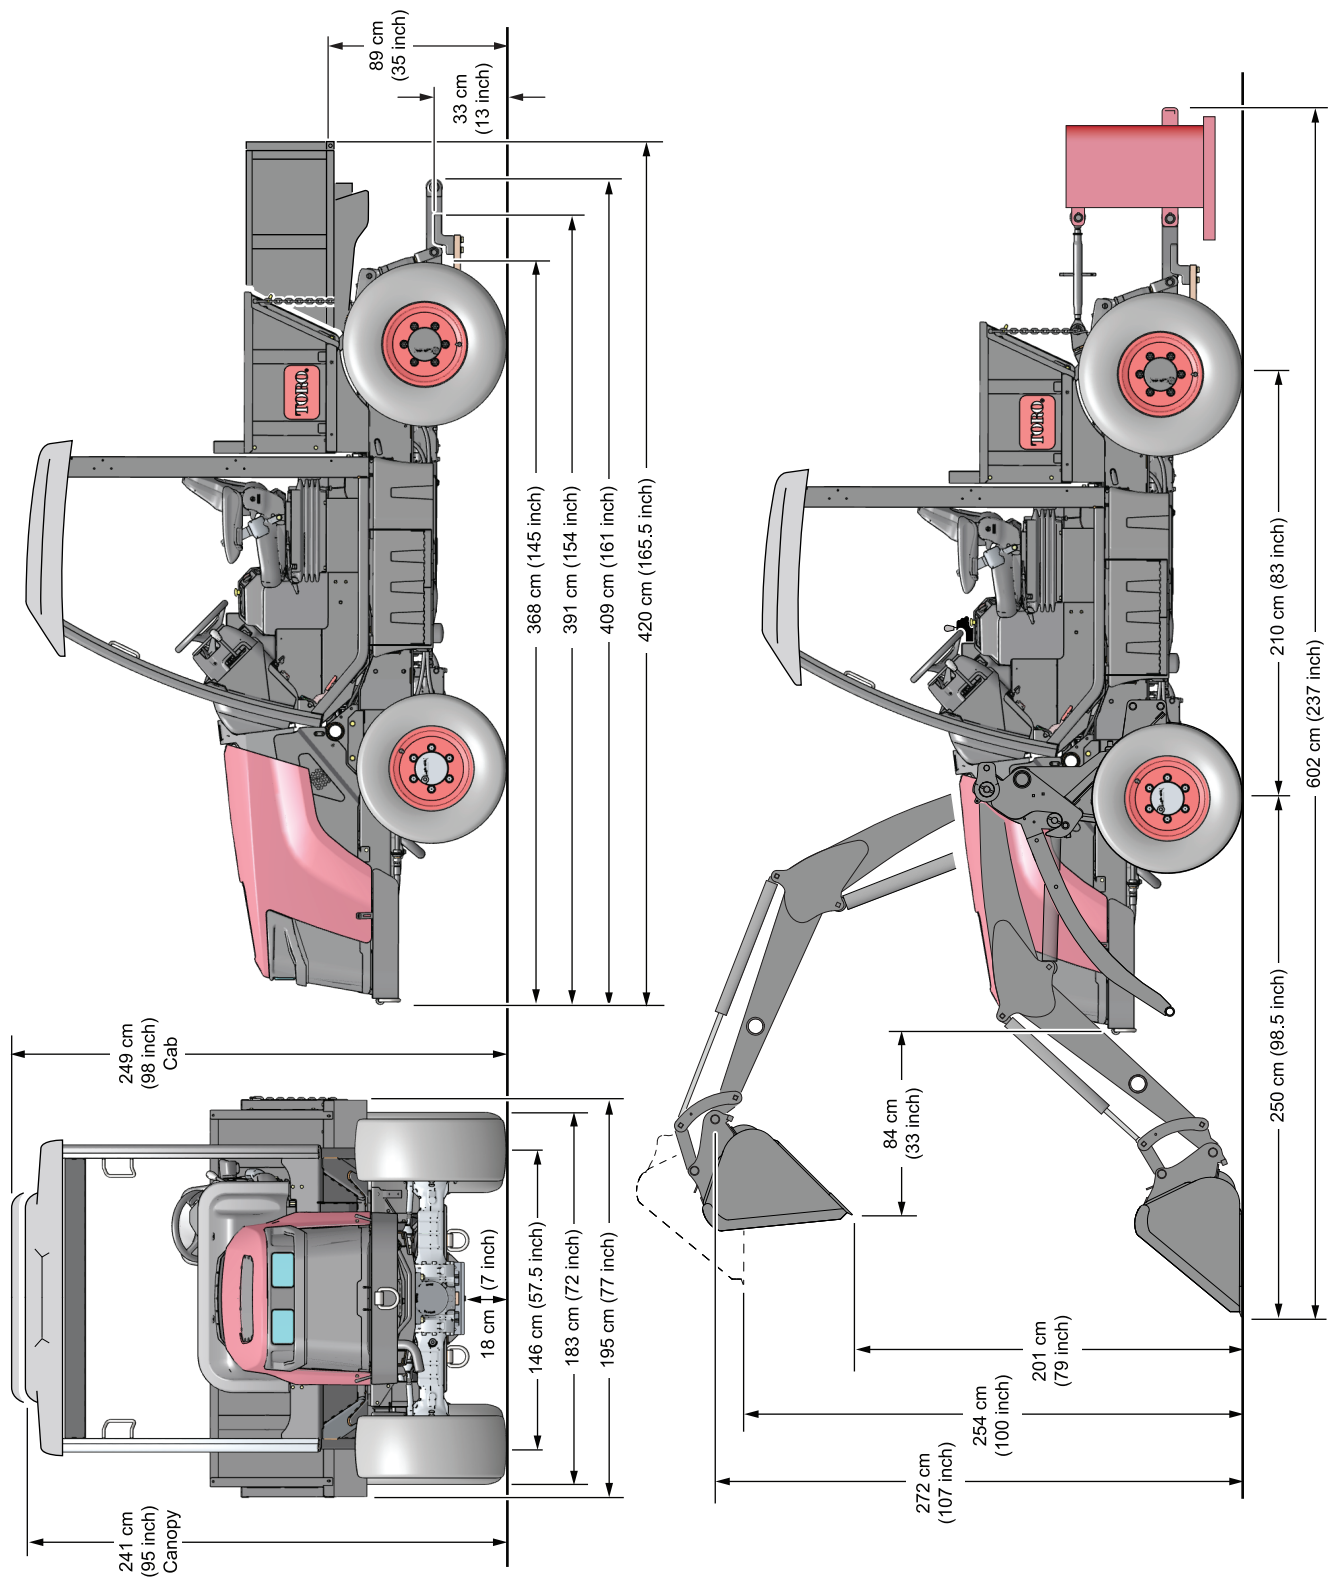

Figure 16
- Refer to Figure 16 for the overall dimensions of the machine.